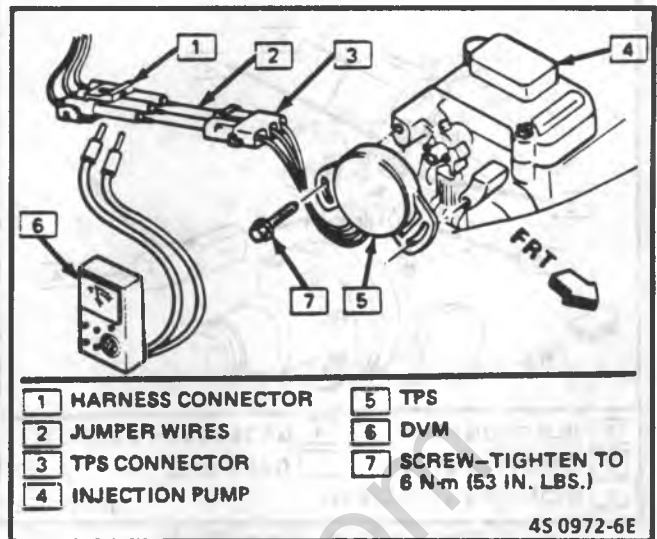

Figure 6E2-27 - TPS Adjustment
4. Install TPS/VRV gage block to J 33043-2, or equivalent, using the .646 side of the block. Position tool between gage boss on injection pump and the wide open stop screw on throttle shaft (Figure 6E2-28).